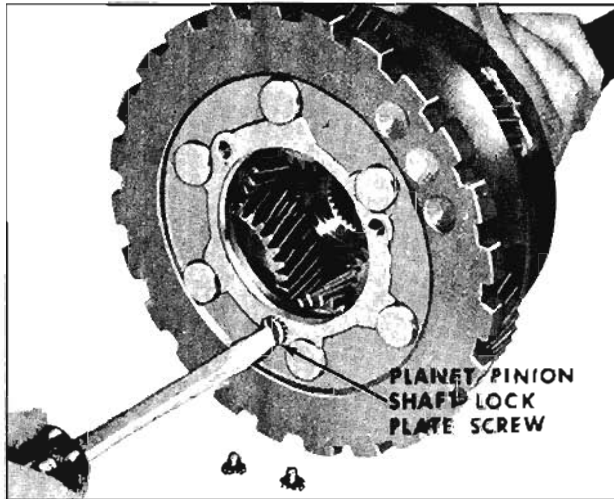

Fig. 6-407 Installing Lock Plate Screws
13. Install three planet pinion shaft lock plate screws and lockwashers. (Fig. 6-407)